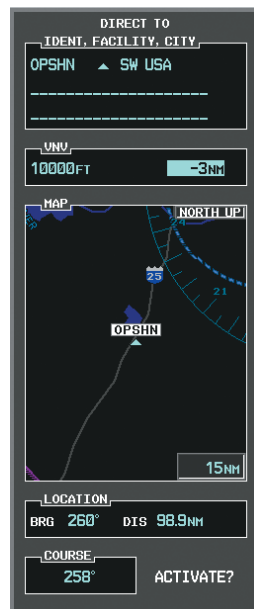

Figure 5-122 Enter VNV Offset Distance
f) Press the **ENT** Key. The cursor is now displayed in the VNV offset field as shown in Figure 5-122.